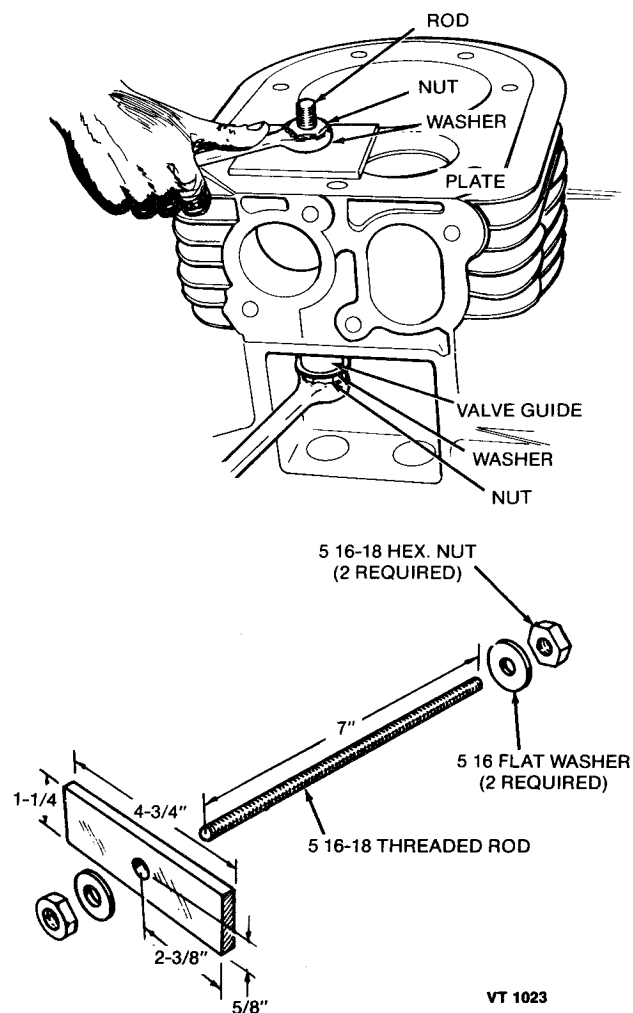

FIGURE 61. VALVE GUIDE INSTALLATION
**Installation:** Run a small polishing rod with crocus cloth through valve guide holes to clean out carbon and other foreign materials. Place a new gasket on the intake valve guide and coat the outer edge of each new guide with oil. Place guide, notch up, in cylinder block and press in until guide protrudes 11/32-inch (8.7 mm) from rocker box side of block. A suggested method of installation is shown in Figure 61.